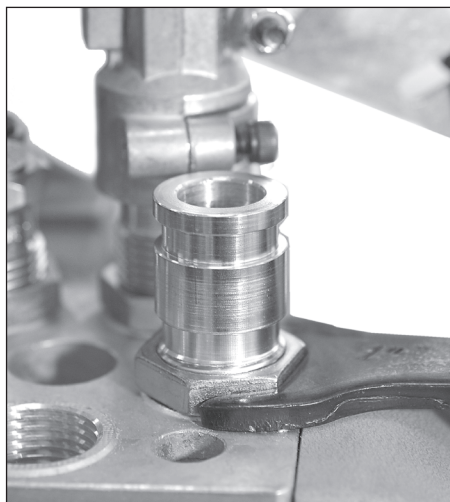

FIG 55
3. Run the locking down. Using a 1" wrench snug the locking FIG 55.